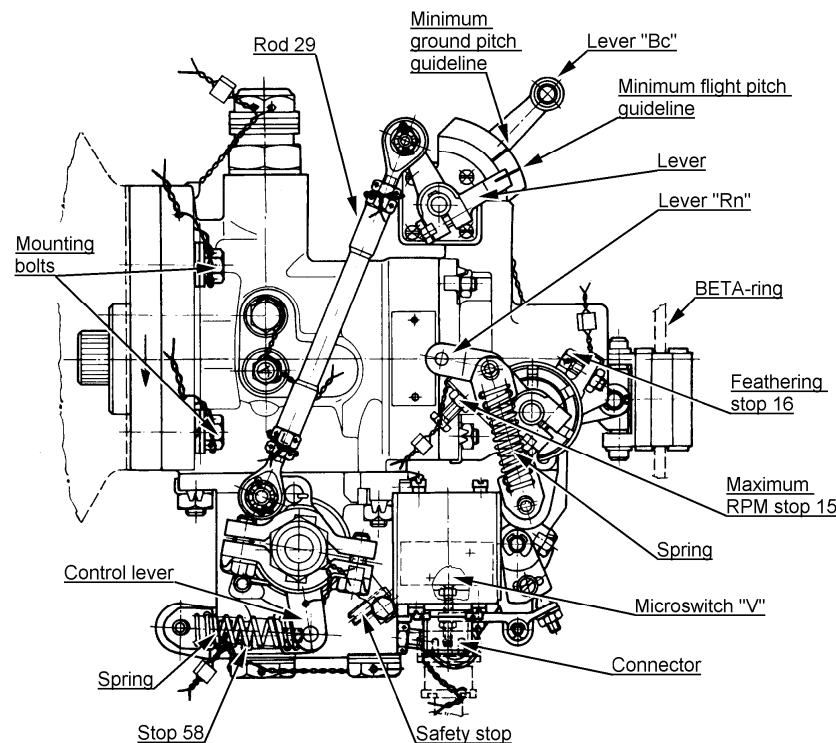
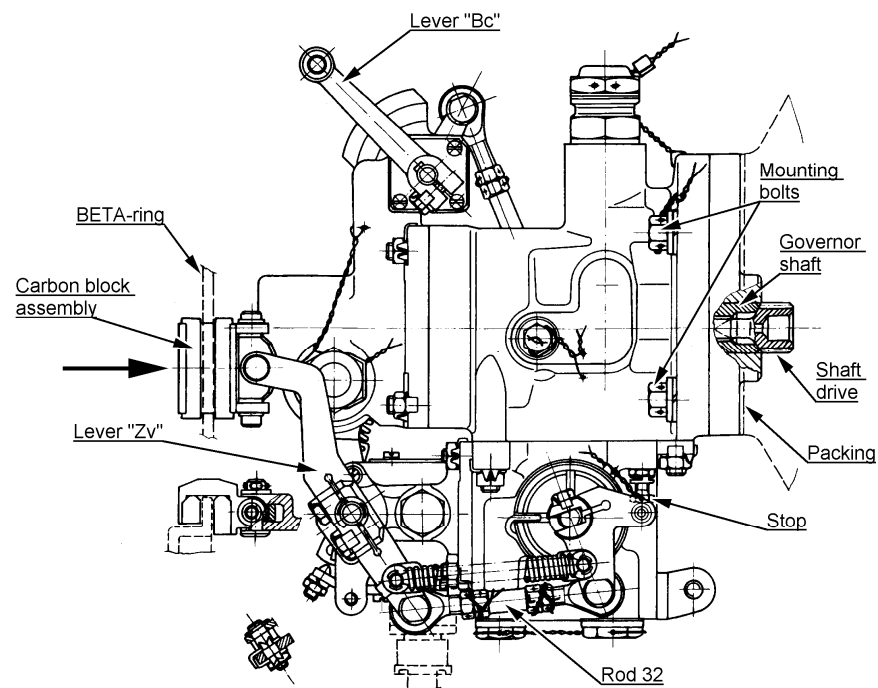

Figure 11-9 Governor LUN7815.03 View to engine
Figure 11-10 Governor LUN7815.03 View from engine
(1) Verify governor condition for damage. No damage acceptable.
(2) Verify installation of spring on the lever "Rn" (figure 11-9).
(3) Verify locking devices of appropriate elements (figures 11-9, 11-10, 11-11).
(4) Verify seals and securing (figures 11-9, 11-10).
BE CAREFUL AT SECURING ELEMENT **32** (FIGURES 11-10 AND 11-11, LOCKING WIRE AND COTTER PIN). LEFT THREAD IS MARKED WITH "L". THE STOP – FIGURE 11-10 – MUST HAVE THE SAFETY WIRE ACROSS THE HEXAGON HEAD OF THE BOLT. STOP MUST NOT BE RELEASED AND RE-ADJUSTED, IT IS ADJUSTED BY GOVERNOR MANUFACTURER.
(5) With "Bc" lever (figure 11-9) in basic position (guideline on the lever with cam aligns with minimum flight pitch guideline on the governor scale and the control lever pin touches the stop **58**), verify "Rn" lever travel between stops **15** and **16**.
(6) With lever "Rn" at maximum RPM stop **15**, verify lever "Bc" travel from basic position up to reverse, when the guideline on the lever with cam is against reverse range on the governor scale. Then move the lever "Bc" further to safety stop.
(9) Verify function of the microswitch "V" (figure 11-9) by moving lever "Zv" in the direction of arrow (figure 11-10).
(10) Grease bearings of elements 29, 32, and other appropriate surfaces with Aeroshell Grease 5, 6 or 22.
(12) Insert drive rod into the governor shaft with square inward (figure 11-10). Try to turn with drive rod. The rod should rotate freely.
- (18) Connect rod from RPM control system to the lever "Rn" (figure 11-9) and secure.
- (19) Connect the control rod from engine to the lever "Bc" in its basic position and secure.
- (20) Connect plug to the beta switch and secure.
- (21) Adjust the governor according to procedure in this section.